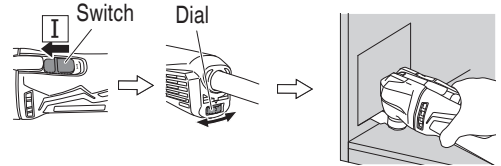

Fig. 6
1. Switch the unit on and use the dial to set the speed of the application tool. (Fig. 6)
2. Lightly place the application tool on the material and move the application tool forward at a pace where the movement isn't slowed. (Fig. 6)